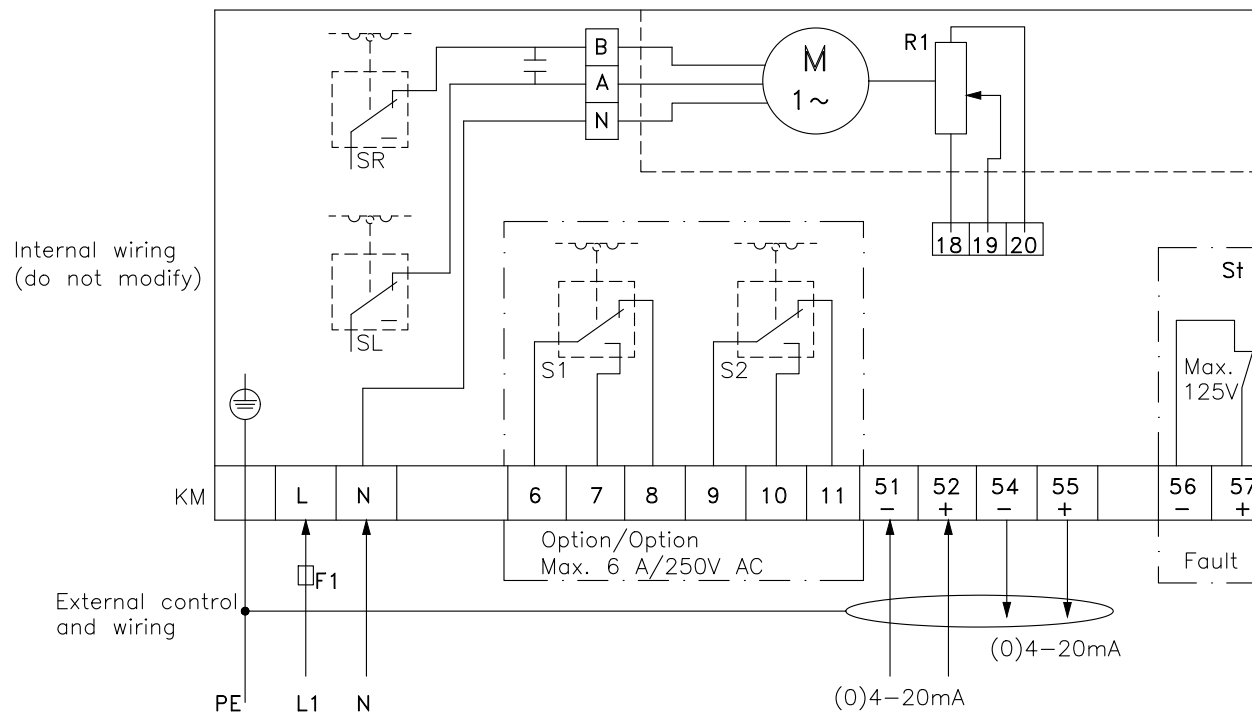

Fig. 2
Please make necessary connections, as per the wiring diagram provided in Fig. 2 on page no. 5.
- \* Potential free, change over output of auxiliary limit switch S1, can be obtained from terminals "6","7" and "8", refer Fig. 2 .
- \*\* Potential free, change over output of auxiliary limit switch S2, can be obtained from terminals "9","10" and "11", refer Fig. 2.